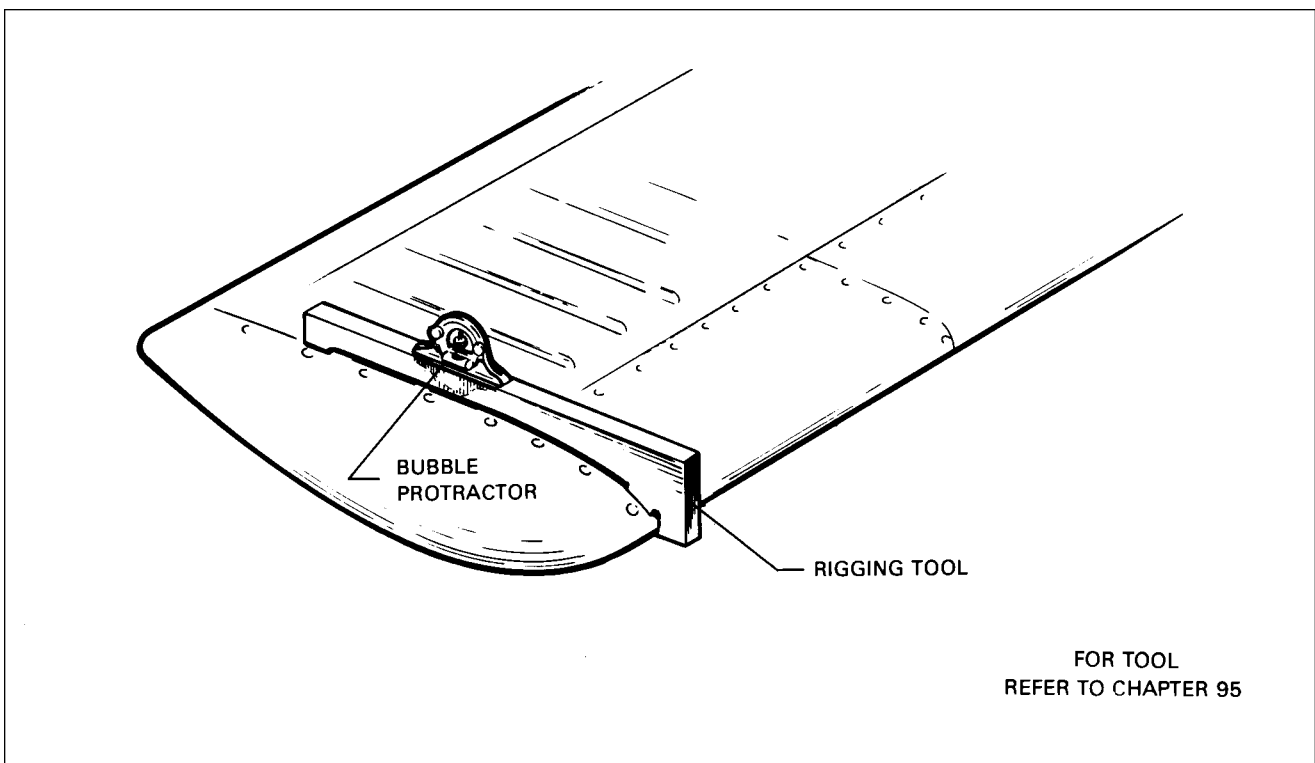

Figure 27-18. Utilization of Stabilator Rigging Tool
3. Secure the stabilator in neutral position. To find neutral, place a rigging tool on the upper surface of the stabilator as shown in figure 27-18. (This tool may be fabricated from dimensions given in Chapter 95.) Zero a bubble protractor, set it on the rigging tool and tilt the stabilator until the bubble is centered.